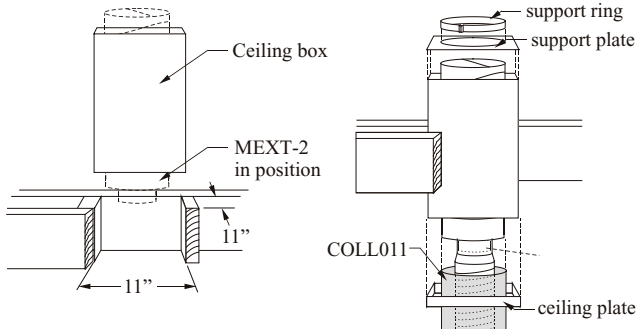

Figure 17. Installing the ceiling box.
2. Install the ceiling box as shown in Figure 17. Ensure that there is at least 2" clearance from the bottom of the box to the ceiling. Fasten in place with 2 screws per side.
3. Slide the MEXT-2 down into position so the male end protrudes into the room below the ceiling box as shown in Figure 17 and secure it temporarily with an MSPXT-7 support plate and ring.